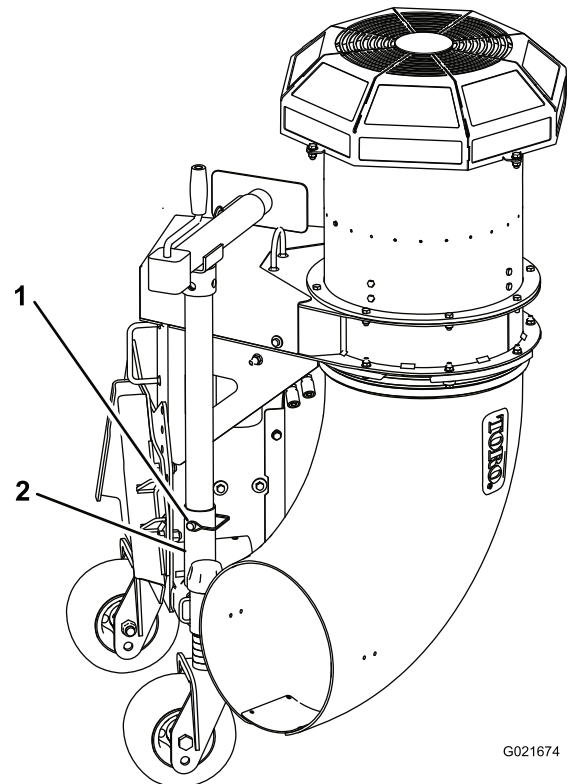

Figure 5
5. Remove the snapper pin securing the jack-stand tube to the storage tube (Figure 5). Remove the jack assembly from the storage position.